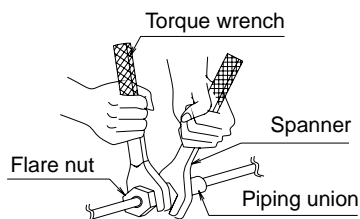

Fig. 11
- Be sure to use both a spanner and torque wrench together, as shown in the drawing, when connecting or disconnecting pipes to the unit. **(Refer to Fig. 11)**